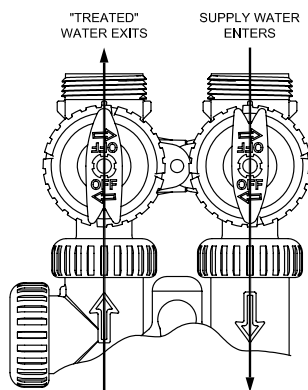

Figure 2
8. coming out of the drain line, open the by-pass inlet valve all the way and allow to run out the drain until water clears. Then slowly place the by-pass into the “normal operation” mode by opening the outlet side of by-pass valve, figure 2, page 4.